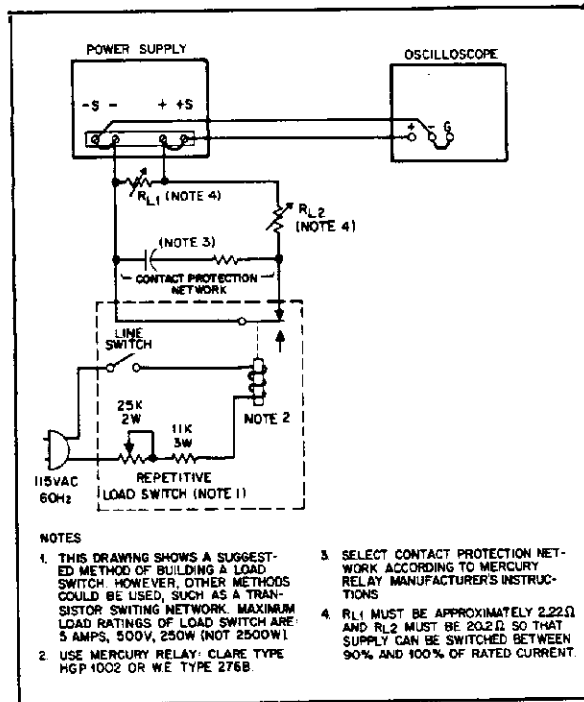

Figure 5-5. Load Transient Recovery Time Test Setup
5-33 We suggest that a mercury-wetted relay connected in the load switching circuit shown in Figure 5-5 be used for loading and unloading the supply. When this load switch is connected to a 60Hz ac input, the mercury-wetted relay opens and closes 60 times per second. The 25k control adjusts the duty cycle of the load current switching to reduce jitter in the oscilloscope display. This relay may also be used with a 50Hz ac input.
- a. Connect load resistor R_{L1} (Figure 5-5) across output of supply. Do not connect R_{L2} and load switch at this time.
- f. Turn off supply and connect load switch and load resistors as indicated in Figure 5-5.